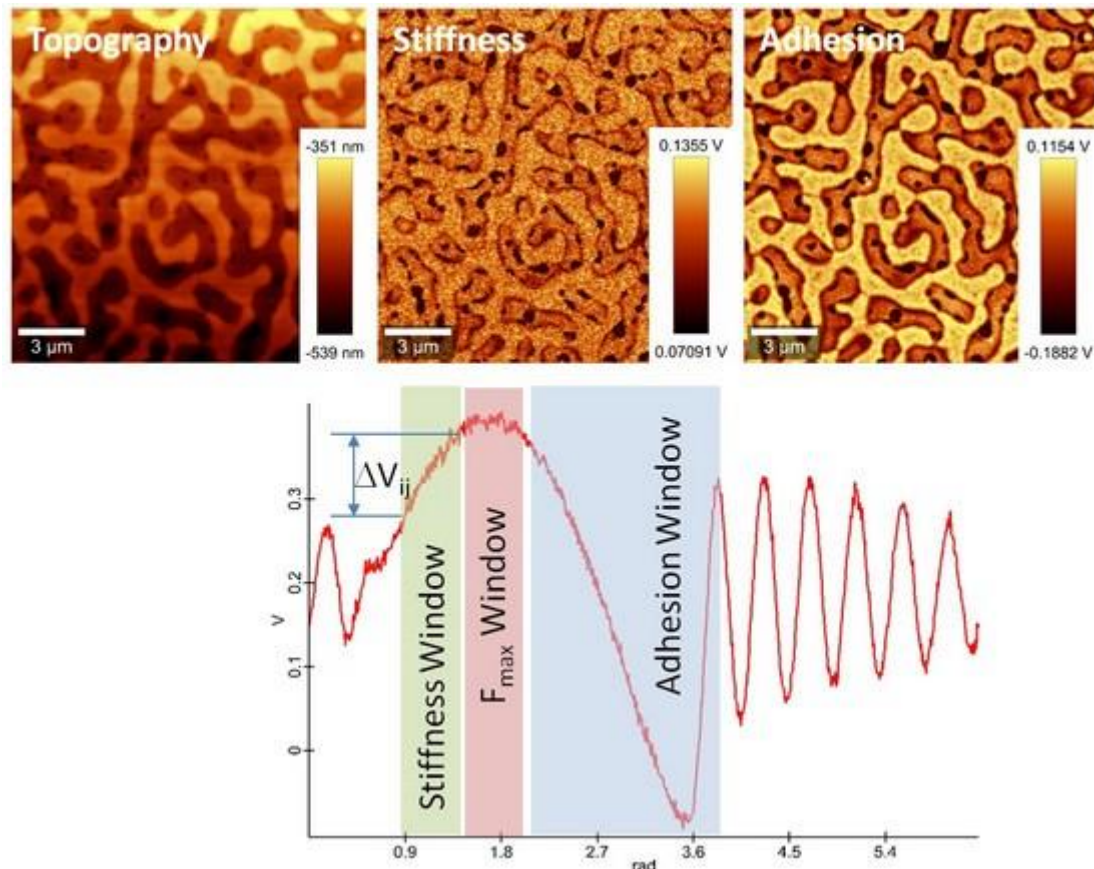

Fig. 1: Results of the DPFM measurement on the polymer blend
Fig. 1 shows the topography, adhesion and stiffness images as measured using the parameter listed in table 1. A typical pulsed force curve from this dataset shows the window selection for stiffness,  $F_{max}$ , and adhesion.
- The stiffness image displays the changes in  $\Delta V_{ij}$  as shown in the pulsed-force curve in Fig. 1.